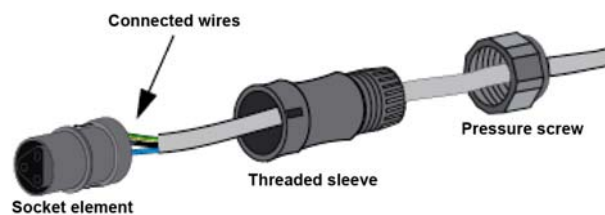

Figure 16
Step3: Confirm all the wires should be screwed down(Figure 16).